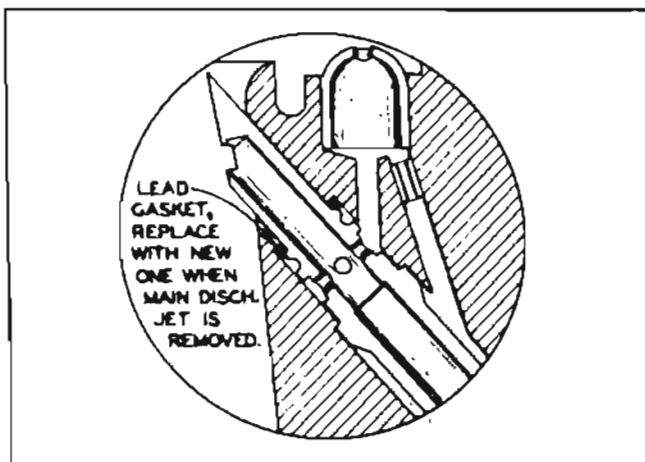

Figure 3-70—Position of Main Discharge Jet and Gasket
7. Place *new* lead gaskets over beveled ends of main discharge jet. Use Jet Remover T-24967 to install jets in main body, being careful to position jets so that flat surface is parallel with the direction of air flow. See figures 3-70 and 3-64.